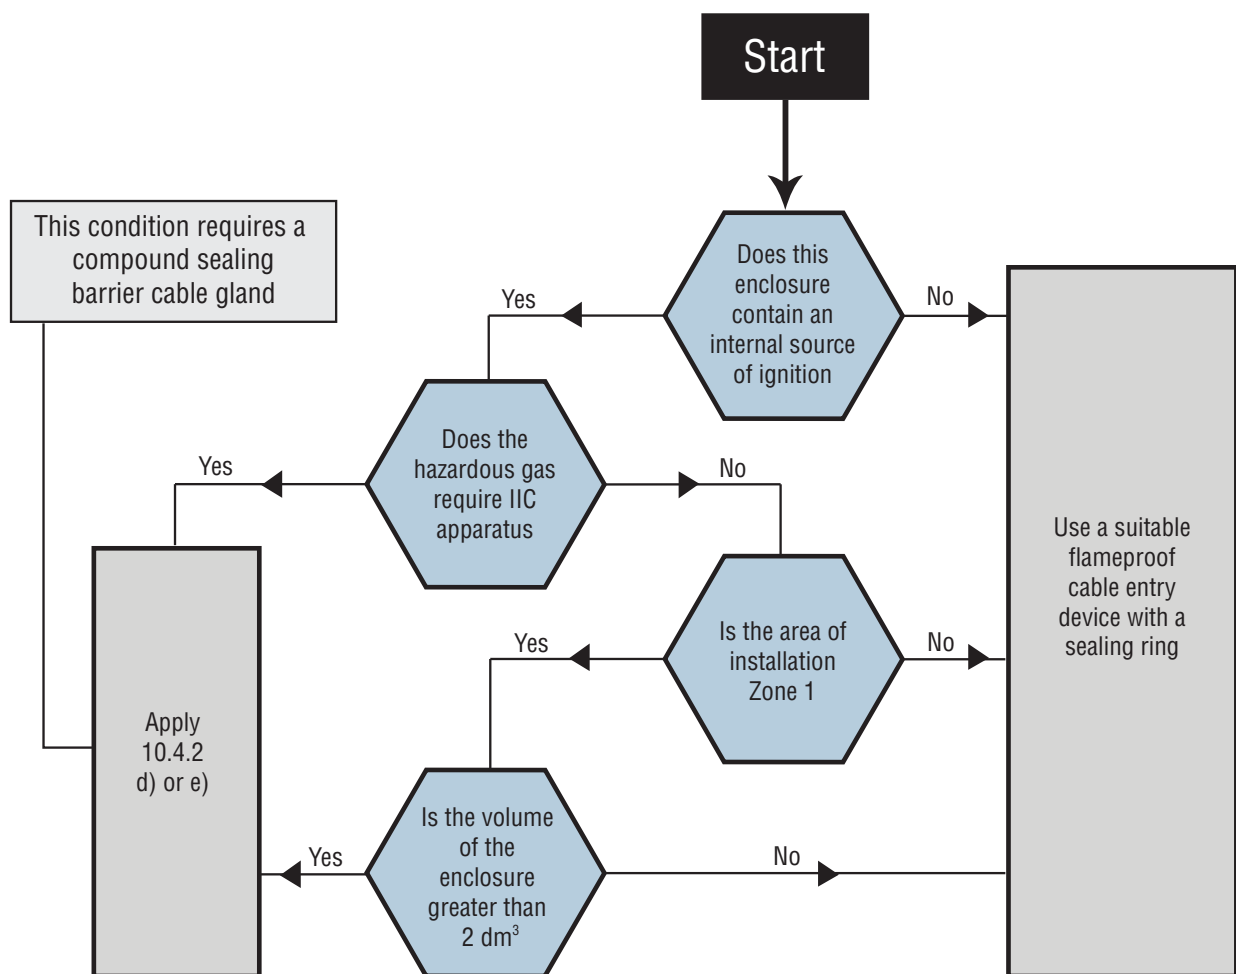

Figure 1: Selection chart for cable entry devices into flameproof enclosures for cables complying with item b) of Section 10.4.2.b.
- thermoplastic, thermosetting or elastomeric cable which is substantially compact and circular, has extruded bedding and fillers, if any, are non-hygroscopic, may utilize flameproof cable entry devices, incorporating a sealing ring selected in accordance with figure 1,